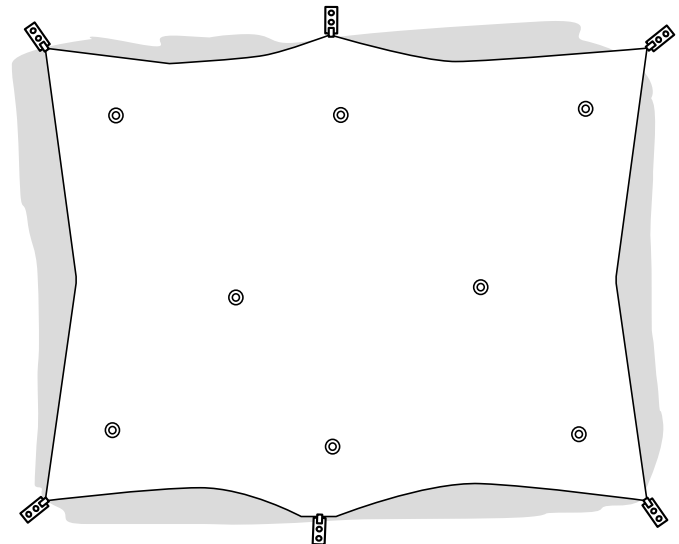

fig.5
8. Spread a ground cloth over the area defined by the stake plates. Unroll the tent canopy, with top side up, from the center of the covered area. See fig.5
See fig.5